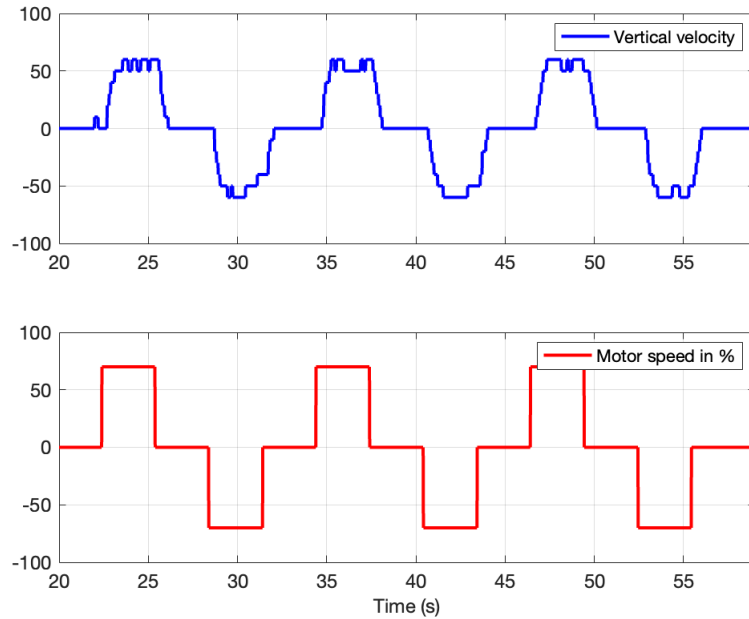

Figure 1.10: Vertical velocity response of the mini-drone to a square wave input
This experiment is carried out in open-loop/manual mode, i.e. there is no feedback control to the altitude. As the system is marginally stable, the input command should be designed with special care. As shown in Figure 1.10, the input command is a square wave input (a series of positive and negative steps) around a working operating point. The duration of each step should be carefully chosen so that the drone vertical position increases and decreases of about 50 cm without hitting the ceiling.
1. Open Matlab and execute the `data0L_plot.m` file to get a plot similar to Figure 1.10.